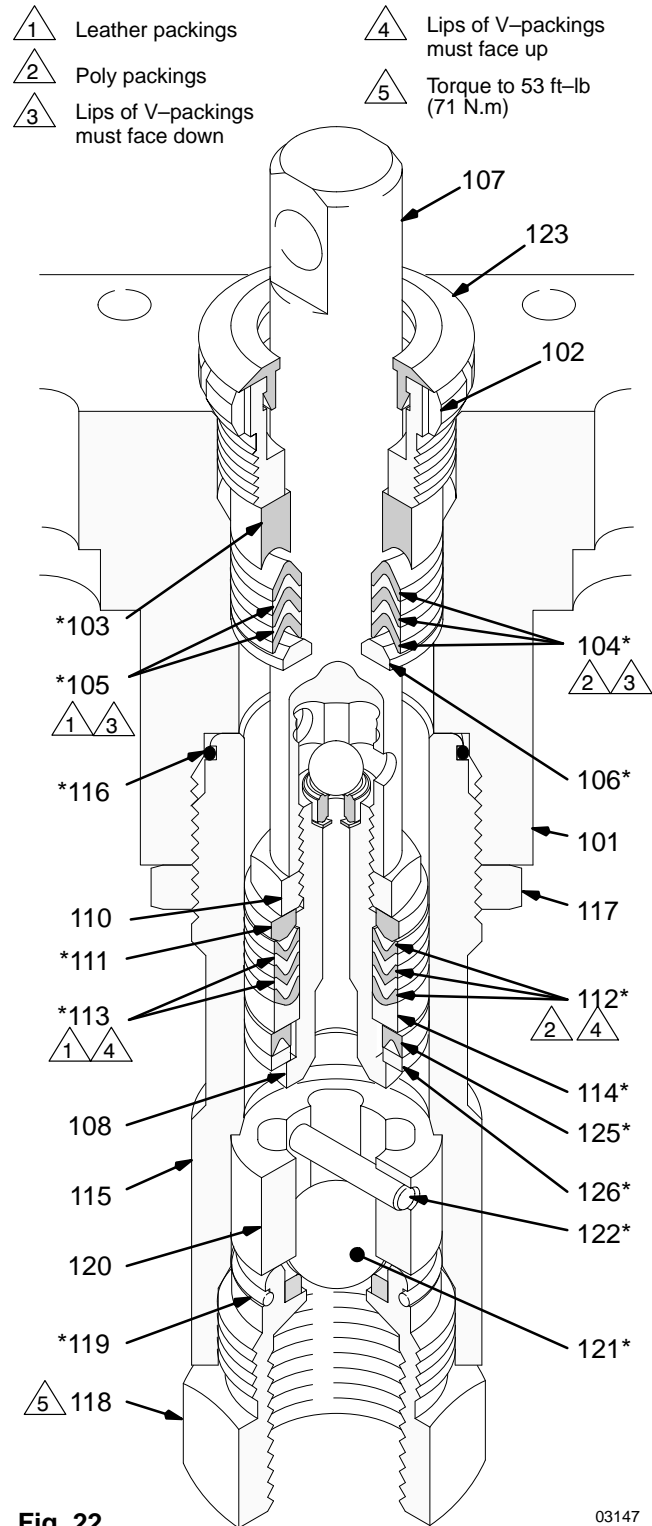

Fig. 22 03147
9. Stack these parts one at a time into the top of the manifold (101): the male gland (106*), alternately three plastic packings (104*) with two leather packings (105*), and then the female gland (103*). See Fig. 22.
10. Install the packing nut (102) and plug (123), but leave loose for now. See Fig. 22.
14. Place the ball guide (120), stop pin (122) and ball (121*) in the cylinder (115). Screw the intake valve into the cylinder and torque to 53 ft-lb (71 N.m). This will also properly torque the cylinder into the manifold. See Fig. 22.